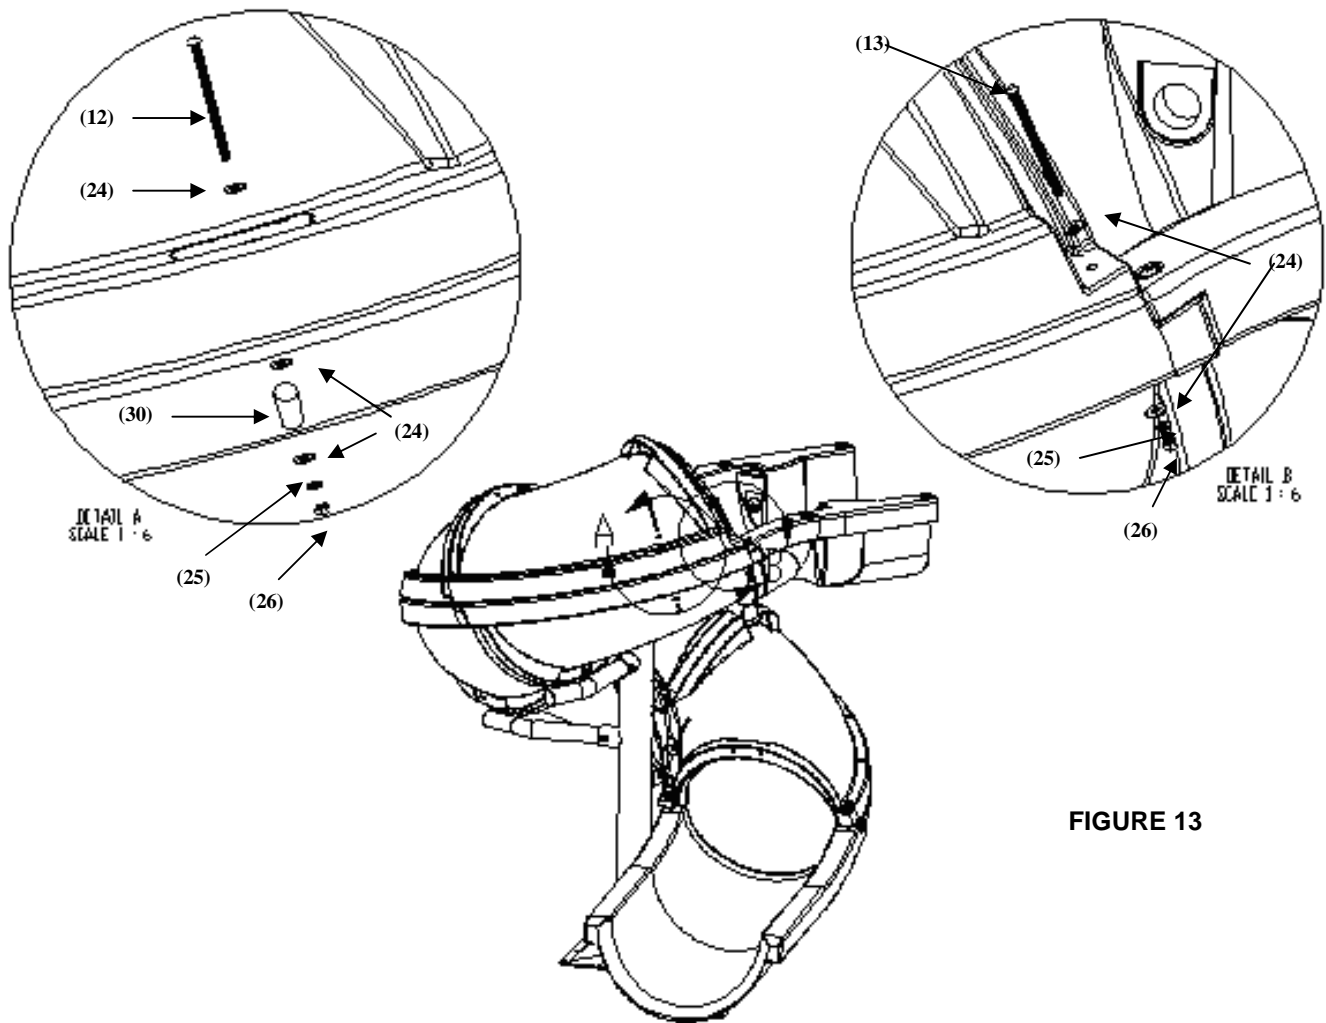

FIGURE 13
10) For this portion of the installation you will need 3-4 people. Slide all four pieces of the top portion of the flume up the slide from the bottom. **Make sure the gasket is in place.** Next, attach the hardware at the top of the runway as shown in Figure 13, Detail B. The hardware required for this step is as follows: 3/8"-16 x 6" Button Head Cap Screw S/S (13), 3/8" Flat Washer S/S (24), 3/8" Flat Washer S/S (24), 3/8" Lock Washer S/S (25), 3/8" Hex Nut S/S (26). Next, working from the top to bottom, fasten the flumes together along the outside edge as shown in Figure 13, Detail A. The required hardware is as follows: a 3/8"-16 x 5" Button Head Cap Screw S/S (12), 3/8" Flat Washer S/S (24), 3/8" Flat Washer S/S (24), 1/2" Sch 40 PVC Spacer 3.25" (30), 3/8" Flat Washer S/S (24), 3/8" Lock Washer S/S (25), 3/8" Hex Nut S/S (26). Tighten the hardware until the gap in the joint is closed.